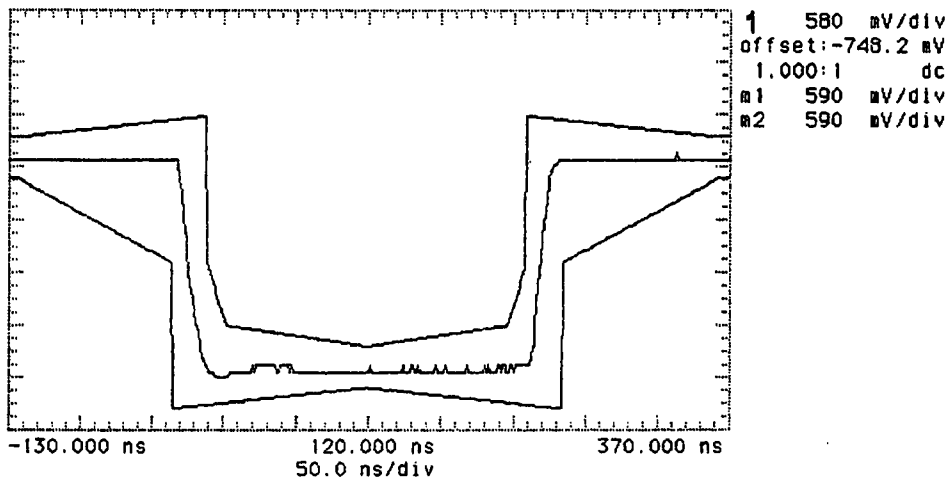

Figure 3-32. 2 Mb/s Isolated Negative Pulse
19. Adjust the oscilloscope timebase and vertical sensitivity controls to verify that the pulse meets the mask as shown in Figure 3-32. Use the displayed settings as a guide.